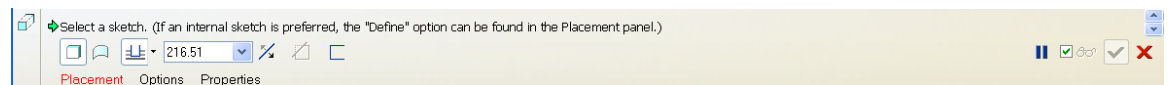
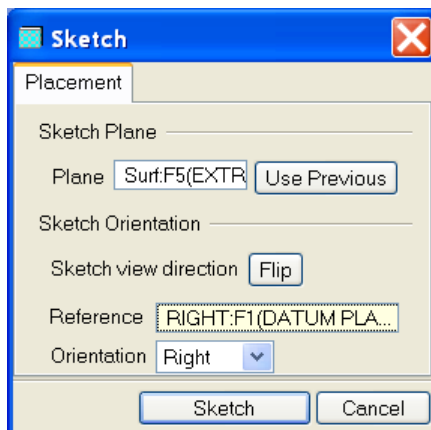

Figure 1.2 The Dashboard
Figure 1.9 Sketch dialog
- Choose INSERT → EXTRUDE from the menu. You should see a new toolbar called dashboard appear as shown in Figure 1.2.
- INSERT → EXTRUDE from the menu. The dashboard appears as shown in Figure 1.2.
- Click on the placement on the extrude dashboard (Figure 1.2) and select define. The sketch dialog window appears as shown in Figure 1.9. Choose top surface of the block as sketch plane and accept the default on the sketch dialog window and click on the Sketch button.